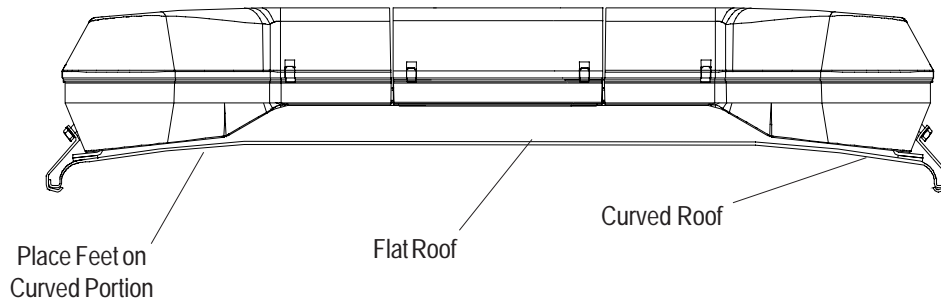

FIGURE 4
**Typical Mounting:** Refer to Figure 3. Place the light bar upside down on a table or other work surface, being careful not to scratch the lenses. Slide the 5/16" carriage bolts into the frame. Secure the mounting brackets finger tight so they support the weight of the light bar. Place the unit on the roof of the vehicle. Place a soft pad in the center of the roof to protect the paint. The mounting brackets must be placed so that they are resting on the curved section of the roof, see Figure 4. This is the strongest part of the roof. Once the light bar is centered, tighten mounting brackets to light bar. Using a tape measure and a level, center the light bar from side to side and locate a position of the roof where the light bar is level. The shims provided may be used here to help level the light bar. Also, the tabs on the mounting bracket may be bent at any angle to match the curvature of the roof (see Figure 4).